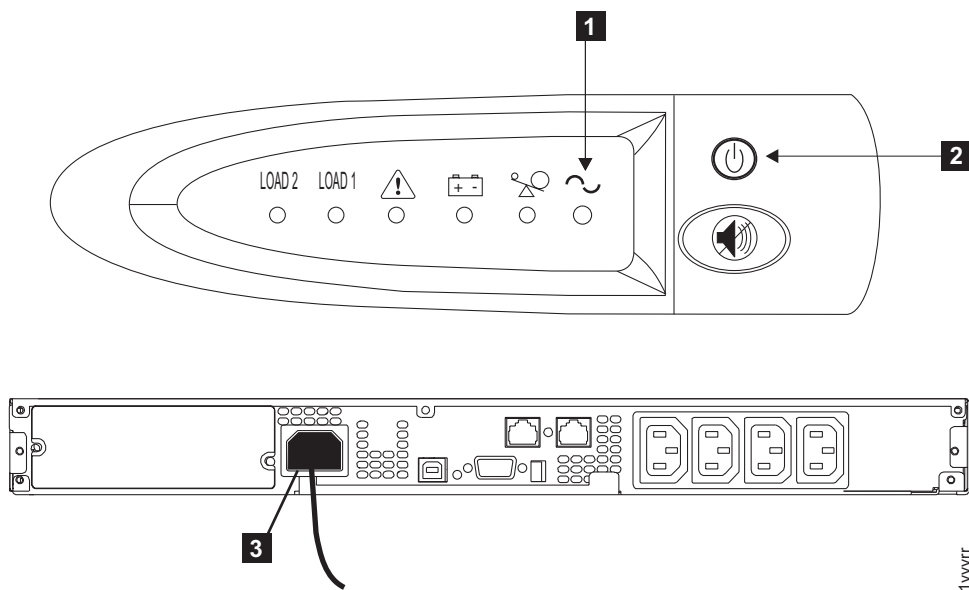

Figure 328. Front and back panels for the 2145 UPS-1U
2. Press and hold the on/off button **2** until the power light **1** is extinguished (approximately five seconds). On some versions of the 2145 UPS-1U, you need a pointed device, such as a screwdriver, to press the on/off button. The 2145 UPS-1U enters standby mode, with all indicators off. Figure 328 illustrates the front and rear views of the 2145 UPS-1U.